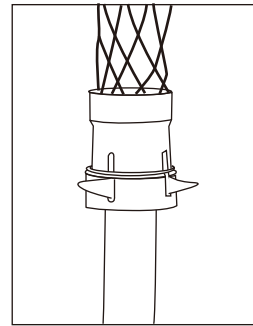

Fig. 12
4. Push the lock ring back down to ensure cams are locked in the outward position (Fig 12).